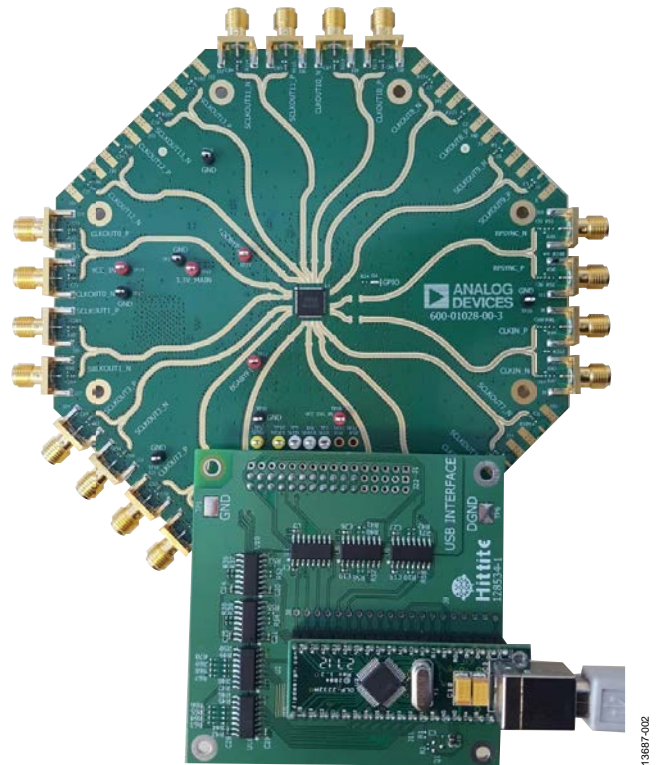

Figure 2. HMC7043 Evaluation Kit Setup
3. Connect the USB interface board to the HMC7043 evaluation board, as shown in Figure 2.